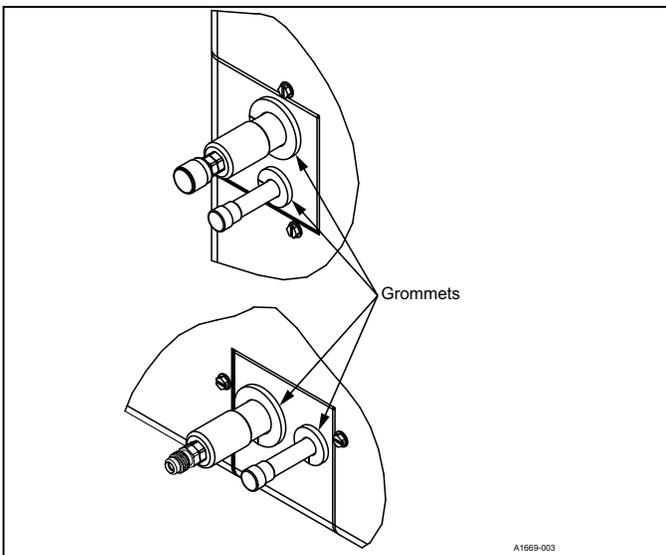

Figure 9: Grommets
2. Remove the grommets where the tubes exit the cabinet to prevent burning them during brazing. In some units, the grommets may be shipped as loose parts with the unit. See **Figure 9**.
11. Re-attach the grommets to the lines carefully to prevent air leakage. In some units, the grommets may be shipped as loose parts with the unit. See **Figure 9**.